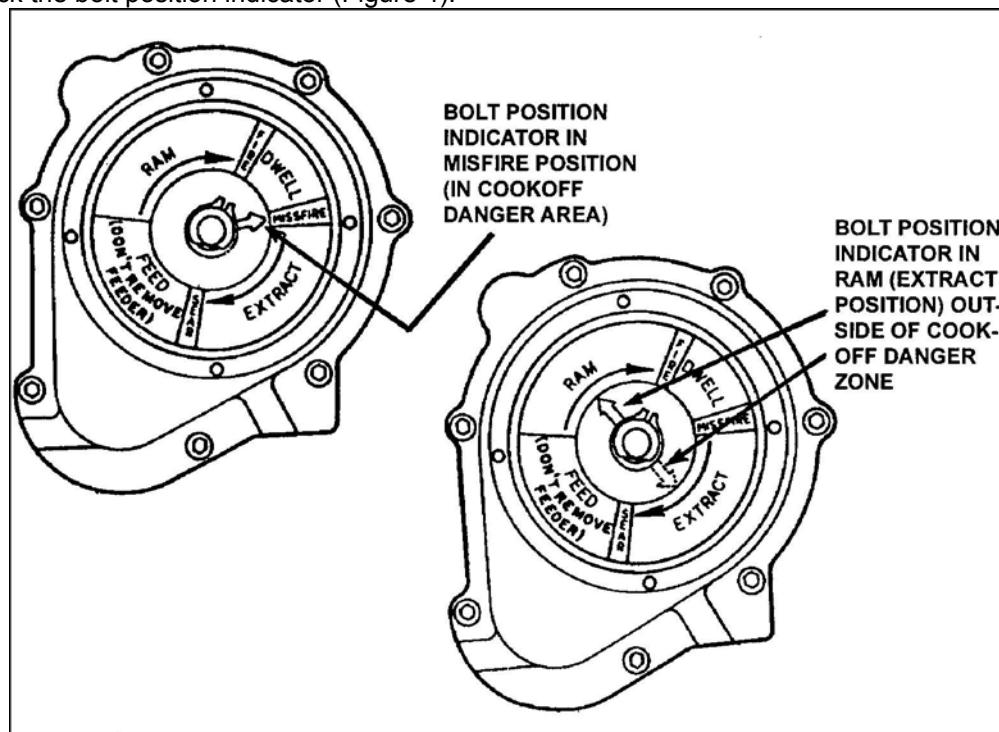

Figure 4. Bolt position indicator.
8. Check the bolt position indicator (Figure 4).